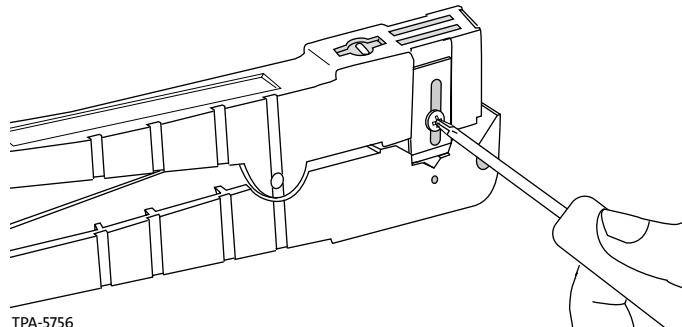

Figure 3
**Step 3:** Before using the large Ideal stripper, make sure that it is properly adjusted. Use a screwdriver (Figure 3) to adjust one of the blades on the side of the cable stripper so that it seats against the lower jaw, but does not force the jaw open. Leave the blades on the front and other side of the tool fully retracted so that they do not extend into the grooves of the lower jaw.